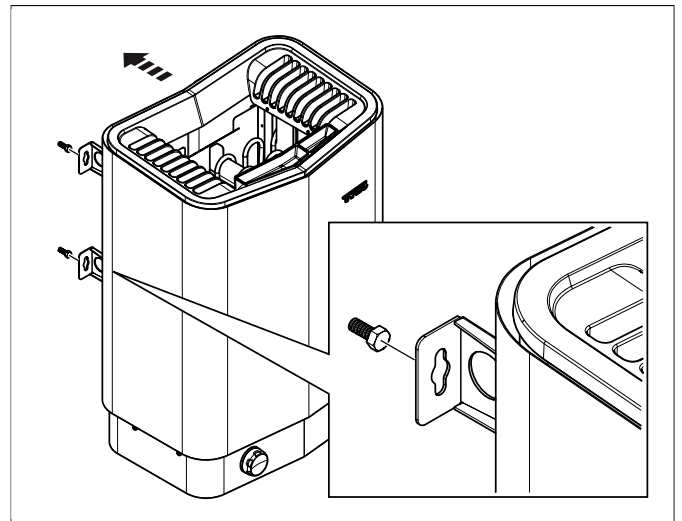

Figure 10: Hang the heater up.
8. Hang the heater on the screws see **Figure 10**, Page 4.